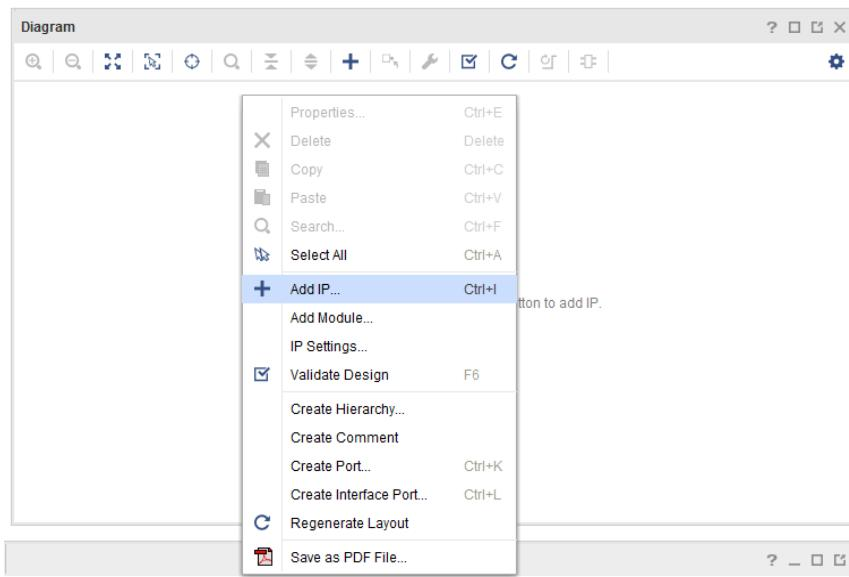

Figure 12.41: Add IP option
- In the design canvas, right-click and choose **Add IP...** option, see Figure 12.41, or